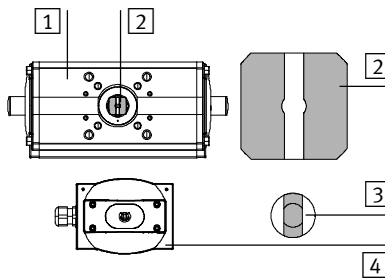

Fig. 9
5. Using a suitable tool or with the aid of the coupling, align the shaft of the sensor box so that the shaft of the sensor box, the coupling and the shaft of the quarter-turn actuator all intermesh in the desired way (see example in Fig. 9).